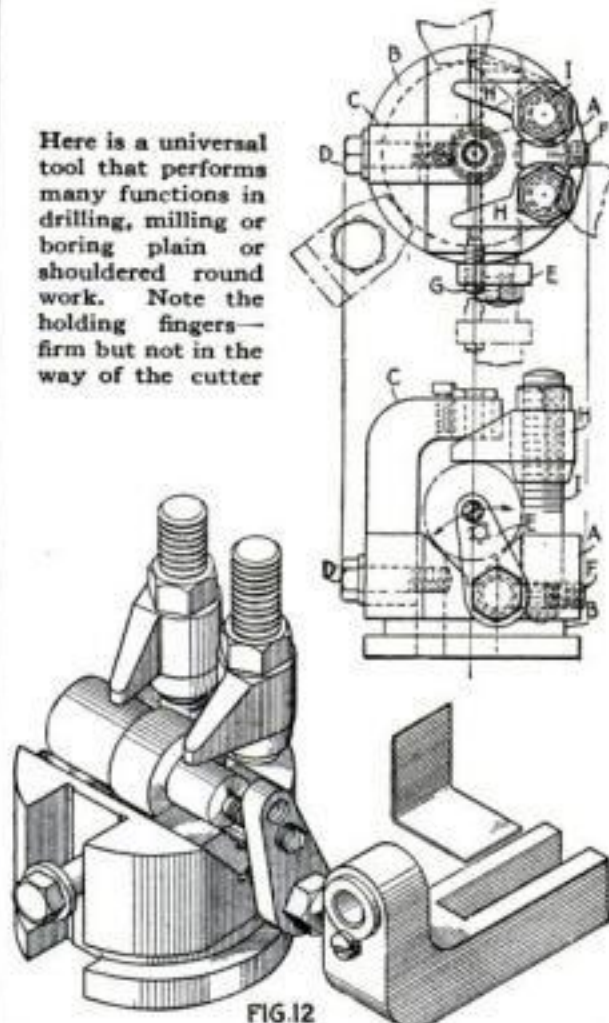

FIG. 12
**T**HE devices so far described have been of the simplest nature, and while they are highly useful and have a comparatively wide range, they cannot be termed universal. In Fig. 12 is shown a vee fixture to which this appellation may rightly be applied. This versatile and yet simple device may be held in the lathe chuck or on the faceplate for boring larger holes. By removing the two upright posts, it may be used in the miller vise as described in the preceding paragraph. It is fully equipped for jig drilling, both center and off center, and to predetermined lengths. (Continued on page 120)